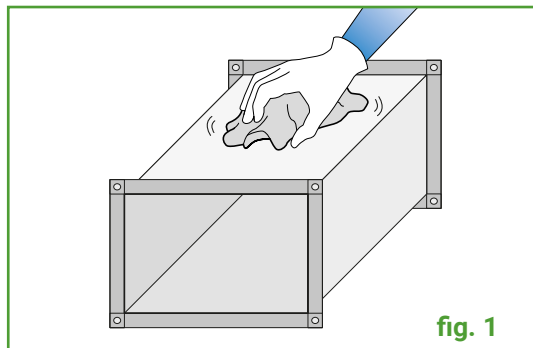
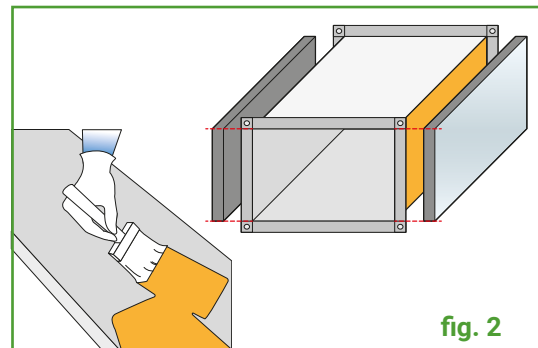

fig. 1
fig. 2
Measure the dimensions of one side of a duct section (**fig. 1**) and cut the **TROCELLEN** insulating material to obtain two equal portions. (**fig. 2**).
To measure and cut the material, proceed as for the adhesive material (see paragraph 4.2). If possible, clean all the external surfaces of the duct by the use of a naked flame over them to remove any traces of oil, dust and other dirt (**fig. 1**). Make sure they are dry before applying the material.
Mix the MATIBLOCK glue and spread a thin layer on the metal surface and on the first two portions of insulating material (**fig. 2**). Once the adhesive has dried (see correct use of MATIBLOCK glue), align the Trocellen insulating material and press firmly and evenly for good bonding.
- Measure the circumference of the duct with a Trocellen strip of known thickness, wrapping it around the duct without stretching. Mark it with a marker where the two edges overlap (**fig. 1**)
- Using these two measurements, trace and cut out the insulating material. (**fig. 2**)
If possible, clean the surface of the duct by the use of a naked flame over it to remove any traces of grease, oil, dust and other dirt (**fig. 1**).